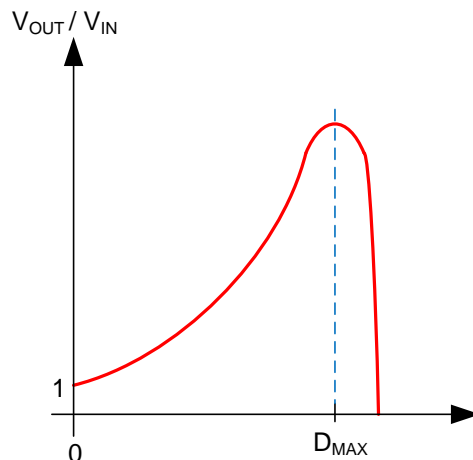

Figure 3. Boost Ratio vs. Duty Cycle
The most fundamental limitation on the maximum output voltage for the boost is the maximum rated voltage of the MOSFET and/or diode. This is specified in the data sheet and is one of the first steps in choosing a candidate converter for a given application. A more practical limitation arises from the maximum duty ratio at which the converter can operate. The duty ratio is defined as the on-time of the MOSFET divided by the total switching period. In all DC/DC converters the output voltage will be some function of this duty ratio. For the boost converter the approximate duty ratio (D) can be found with Equation 4. Parasitic resistance in the inductor and MOSFET, and the diode voltage drop, will set an upper limit on the duty ratio and therefore the output voltage. As shown in Figure 3, all practical boost regulators have a maximum duty cycle, beyond which the regulator will not boost. Equation 5 can be used to find the approximate maximum duty ratio for a given load current, input voltage, and component resistance. This equation applies to both synchronous and non-synchronous converters. Also, the designer of the regulator may impose an upper limit to prevent control loop instabilities; this limit can usually be found in the data sheet. The smaller of this value and any maximum duty ratio given in the data sheet should be compared to that calculated in Equation 4 to ensure that the candidate regulator will function correctly.